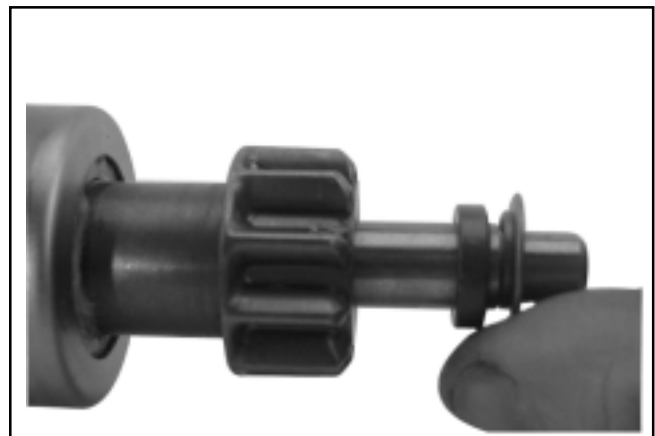

Figure 8-30. Installing Thrust Washer.
- Install the offset thrust (stop) washer so the smaller "offset" of washer faces the retainer/collar. See Figure 8-30.